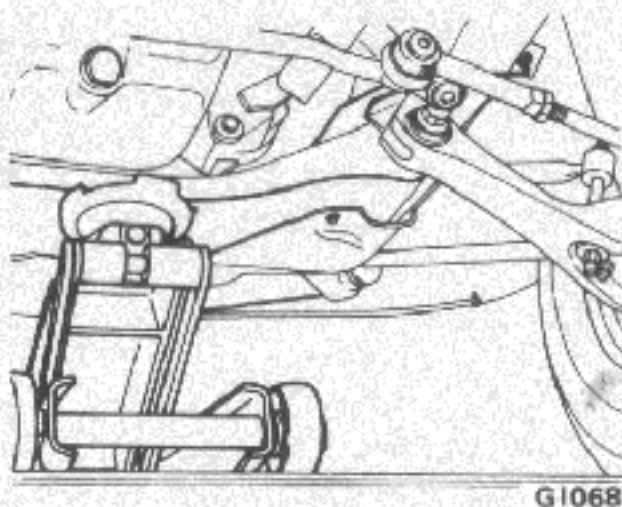

Fig. G1-8 Front jack up point
3. Jack up the vehicle gently just high enough to place the safety stands under both the side members. Place the stands at the position indicated in Figure G1-8